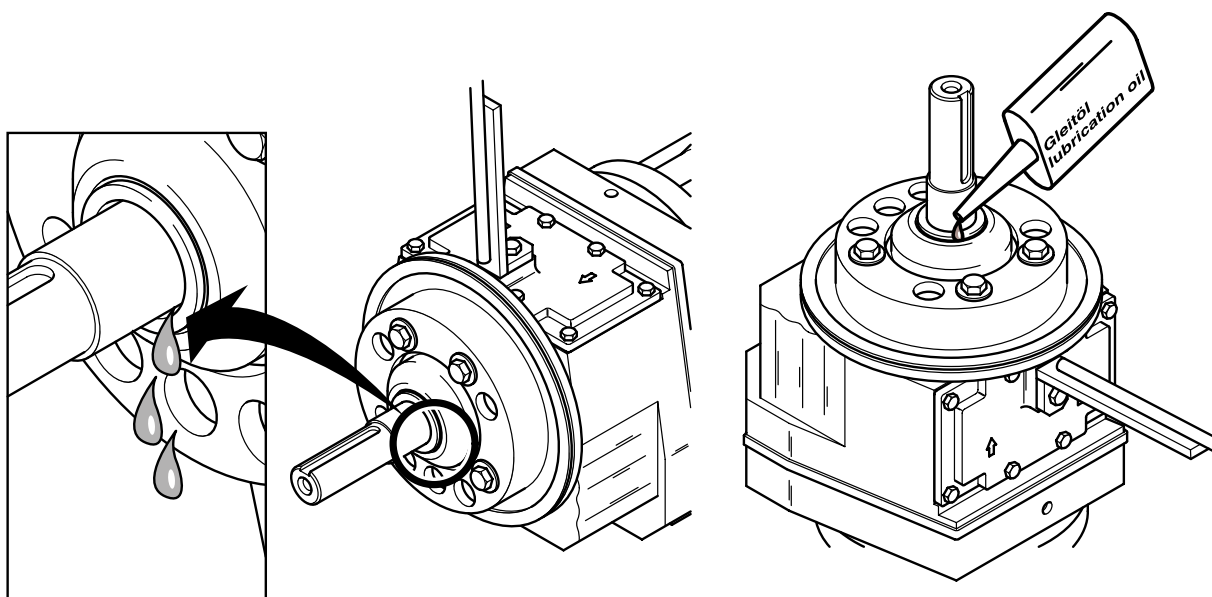

Figure 16 Oil filling and oil change
**NOTE** The flow booster should be set up vertically (see Figure 16) so that the oil does not gush out of the unit when the rotating part of the mechanical seal is removed.
- Place flow booster vertically (as shown in Figure 16) and ensure that it cannot topple over.
**NOTE** *The flow booster should be set up vertically (see Figure 16) so that the oil does not gush out of the unit when the rotating part of the mechanical seal is removed.*
- Release the oil along the shaft gap as shown in Figure 16 into a suitable container (min. 0.5 l). When doing this tilt the motor and gearbox unit sufficient to allow the lubricating oil to fully flow out.
- The new oil is filled in along the gap between the fixed ring and the shaft in a similar manner to when releasing the oil (see Figure 16).